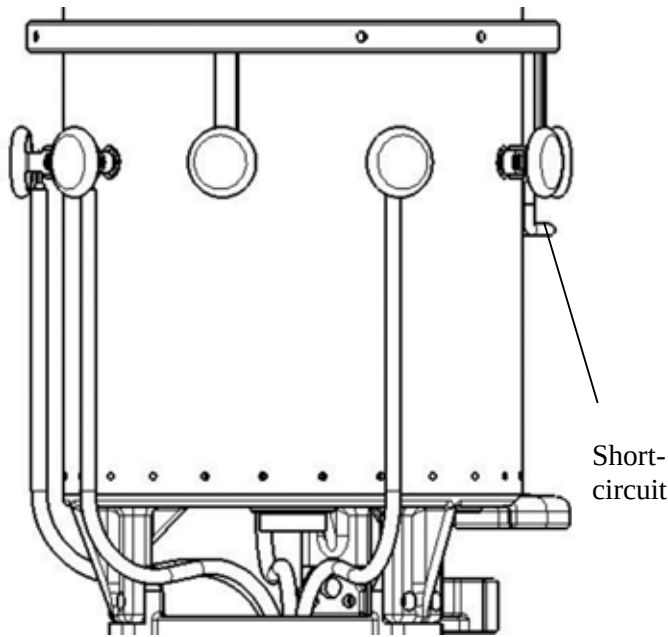

Figure 16 Short-circuit phase A
Align the wire directly with the contact on the oil compartment. Do not make the shielding cap between them (Figure 16).
- 2) II-500/600 & I-800 tap selector's lead wires (4 in total) must be connected to the diverter switch phases B and C's contact led-out terminal. Then use a wire to short-circuit phase A (Figure 16).